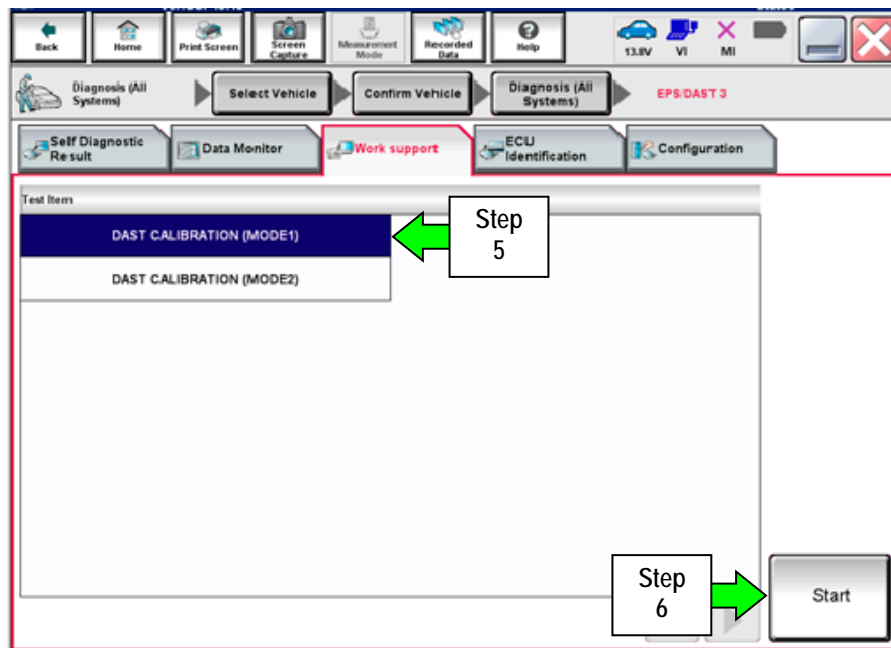

Figure 24
5. On the C-III plus screen, select **Diagnosis (All Systems)**. After System Call has completed, select **EPS/DAST 3 >> Work support >> DAST CALIBRATION (MODE1)**. See Figure 24.